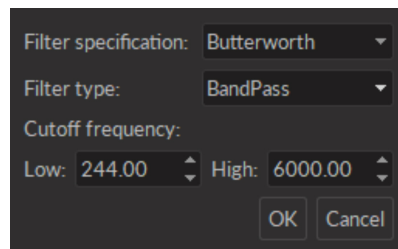

Figure 4.38: *Filter Window*
- The **Filter** button is used to filter the frequency of data sets. After selecting the data set to be filtered, the filter window (Fig. 4.38) is opened. This allows a choice of filter type and variables.